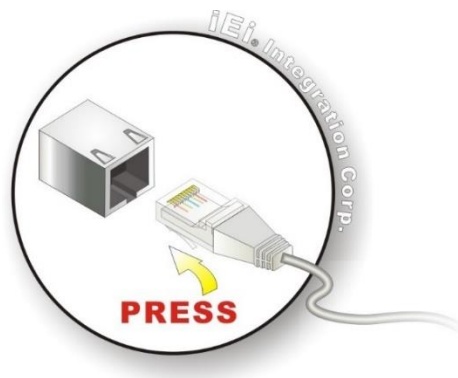

Figure 3-22: LAN Connection
Step 2: Align the connectors. Align the RJ-45 connector on the LAN cable with one of the RJ-45 connectors on the DRPC-W-EHL1 Series. See Figure 3-22.